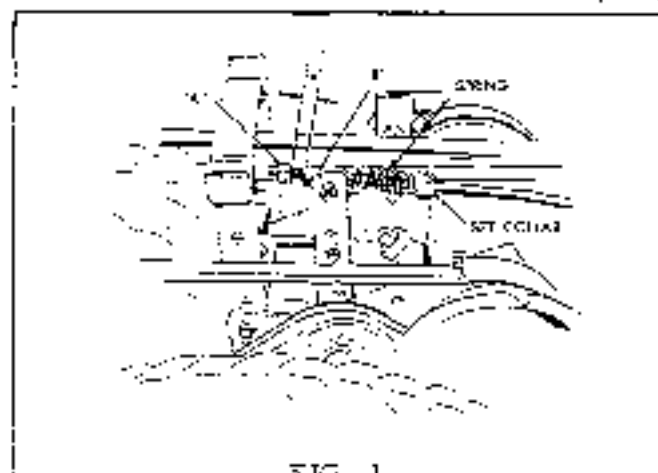

FIG. 1
With clutch and brake pedal in normal position (i. e., clutch engaged and brake released), adjust hex nuts (A) to give $3/4$ " clearance between rod guide assembly (B) and nuts. (See Fig. 1).